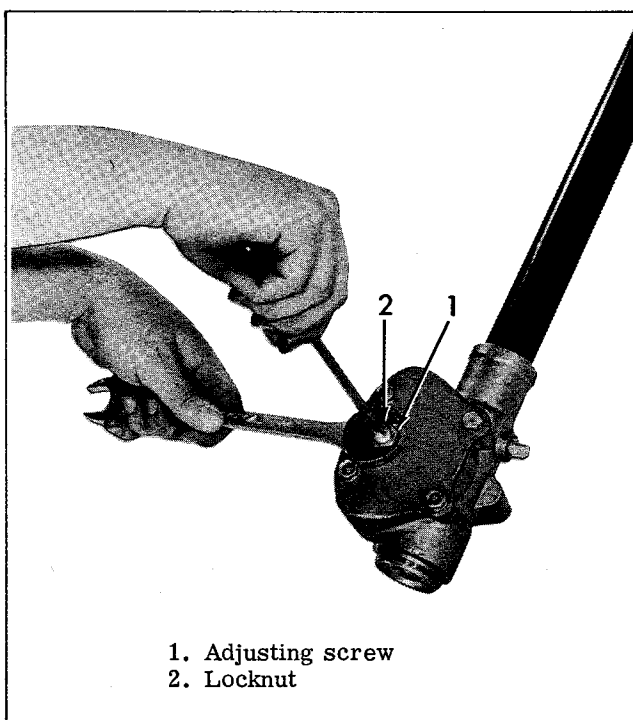

Figure 2-24. Making Over-Center Adjustment
2. Over-Center Adjustment (Figure 2-24).